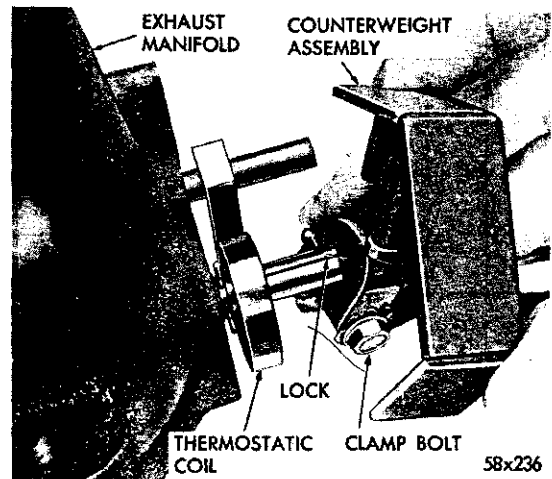

Fig. 10—Installing the Counterweight
(3) Move the outer end (tongue) counter-clockwise and hook under the pin, as shown in Figure 10.
(4) Place the counterweight assembly over the shaft (with the weight in the upward position) and insert the
lock in the shaft slot, as shown in Figure 10. **If the composition on the stop is worn, replace with a new stop.** Center the counterweight on the shaft and turn the assembly clockwise until the stop passes the pin. Press the counterweight on the shaft until seated and tighten the clamp bolt 50 inch-pounds with torque wrench Tool C-3380. Test the valve for proper operation.